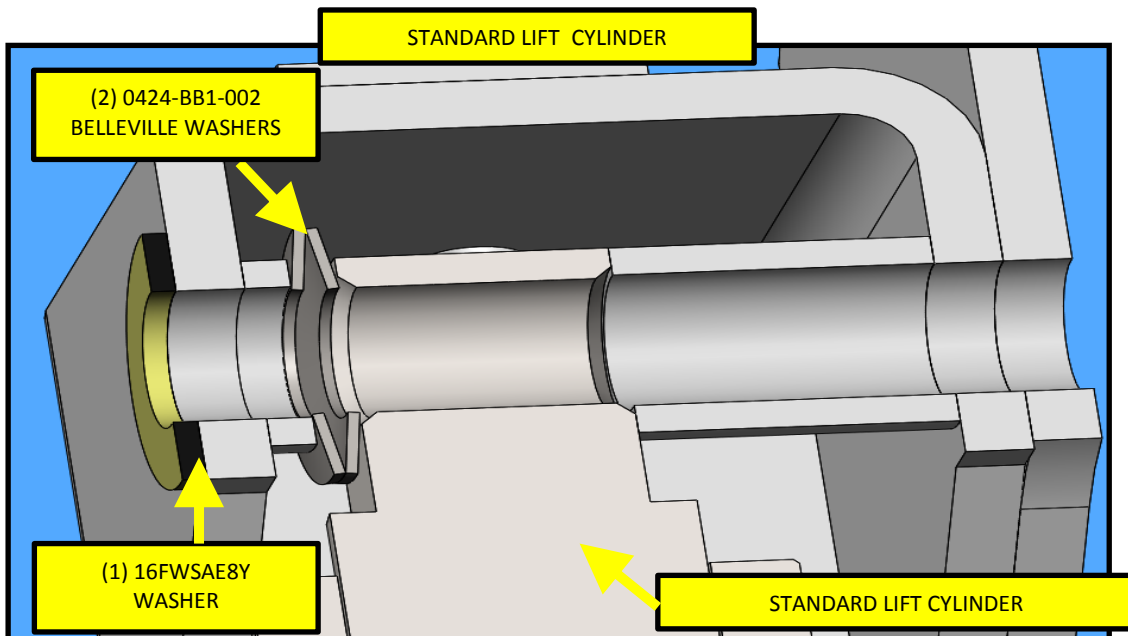

FIG. 10-2
b. Insure that the Belleville washers are oriented correctly. Refer to FIG. 10-2.